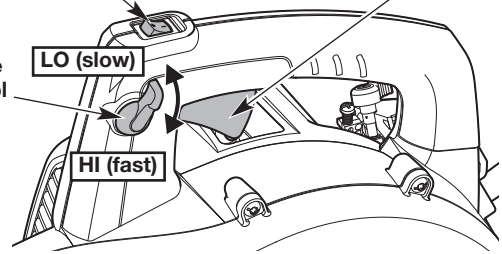

Fig. 3
NOTE: There is no need to turn the unit on. The On/Off switch is in the **On (I)** position at all times (Fig. 3).
4. Move the cruise control to the **LO (slow)** position (Fig. 3).
NOTE: Keep the cruise control in the **LO (slow)** position and **DO NOT** squeeze the throttle control until step 9 (Fig. 3).
8. **DO NOT** squeeze the throttle control. Idle the engine for 5 to 10 seconds. If the unit stops during this time, squeeze and hold the throttle control or move the cruise control to the **HI (fast)** position (Fig. 3), then pull the starter rope in a controlled and steady motion until the unit starts.
9. Squeeze and hold the throttle control or move the cruise control to the **HI (fast)** position (Fig. 3). Allow the engine to warm up for 30 to 60 seconds.
2. Press and hold the On/Off switch in the **Off (O)** position until the engine comes to a complete stop (Fig. 3).
- Use the cruise control to make continuous operation easier (Fig. 3).